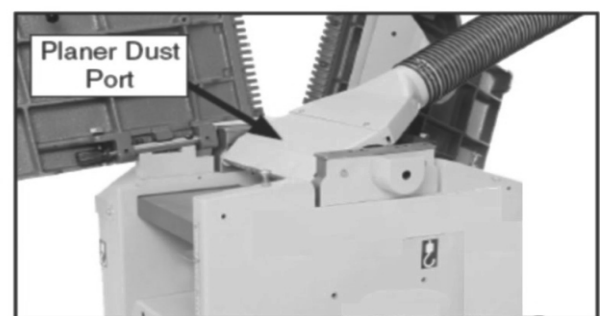

Figure 23. Planer dust port setup.
7. Swing the planer dust port clockwise over the cutterhead as shown in **Figure 23**.